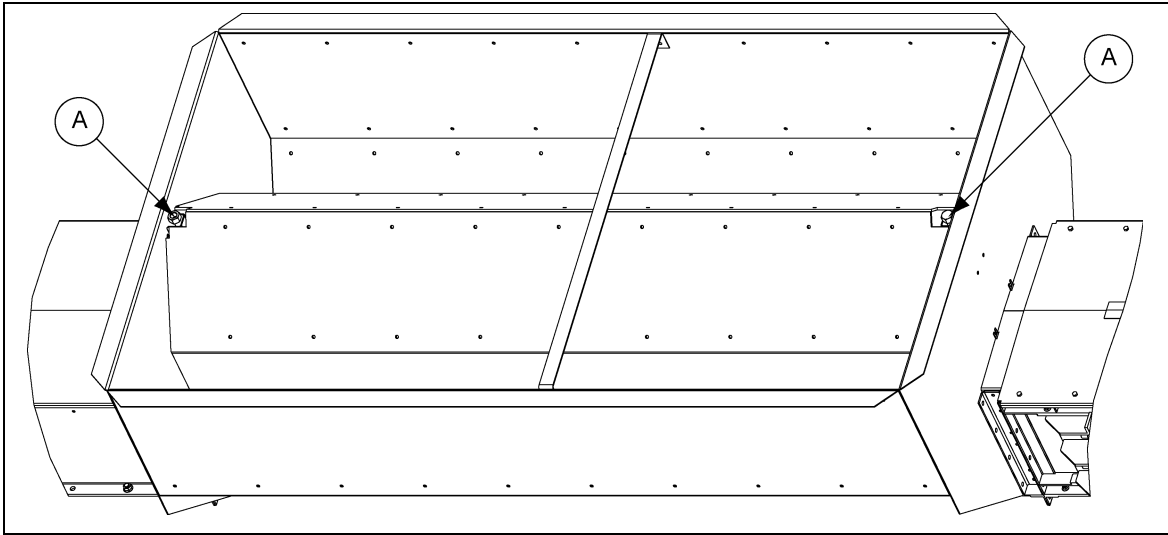

Figure 6M Dump Hopper
Dump hoppers have two (2) bolts (A) for capacity adjustment. These bolts will adjust the entire hog-back up or down to increase or decrease the open area. (See Figure 6M.)